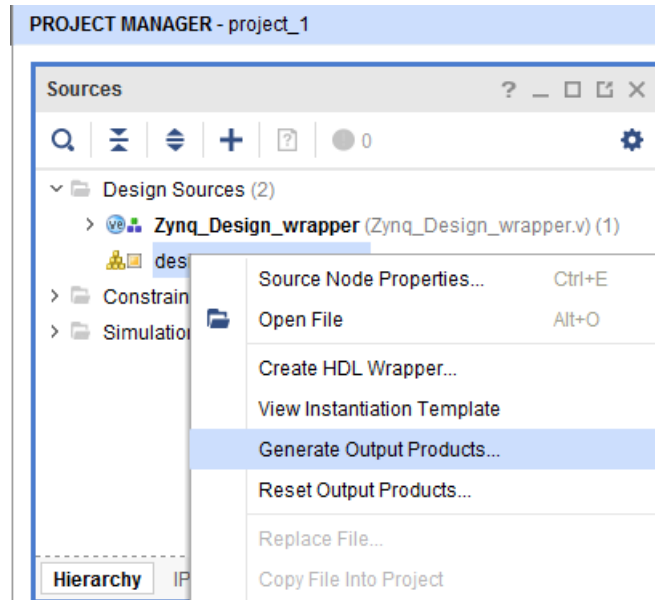

Figure 10-19: Generate Output Products
2. In the Sources browser in the main workspace pane, a Block Diagram object called `Zynq_Design` is at the top of the Design Sources tree view (Figure 10-19). Right-click this object and select **Generate Output Products**.